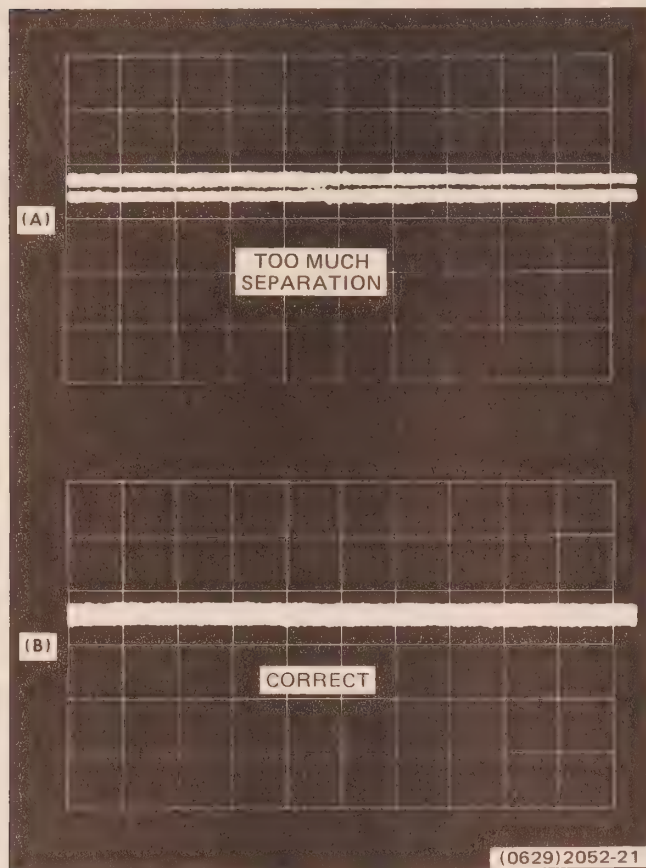

Fig. 2-2. Display of tangentially measured noise (A) incorrect; dark area showing between traces, (B) correct display.
g. Decrease the calibration generator output amplitude until the two traces just merge (no dark area between the traces, see Fig. 2-2).